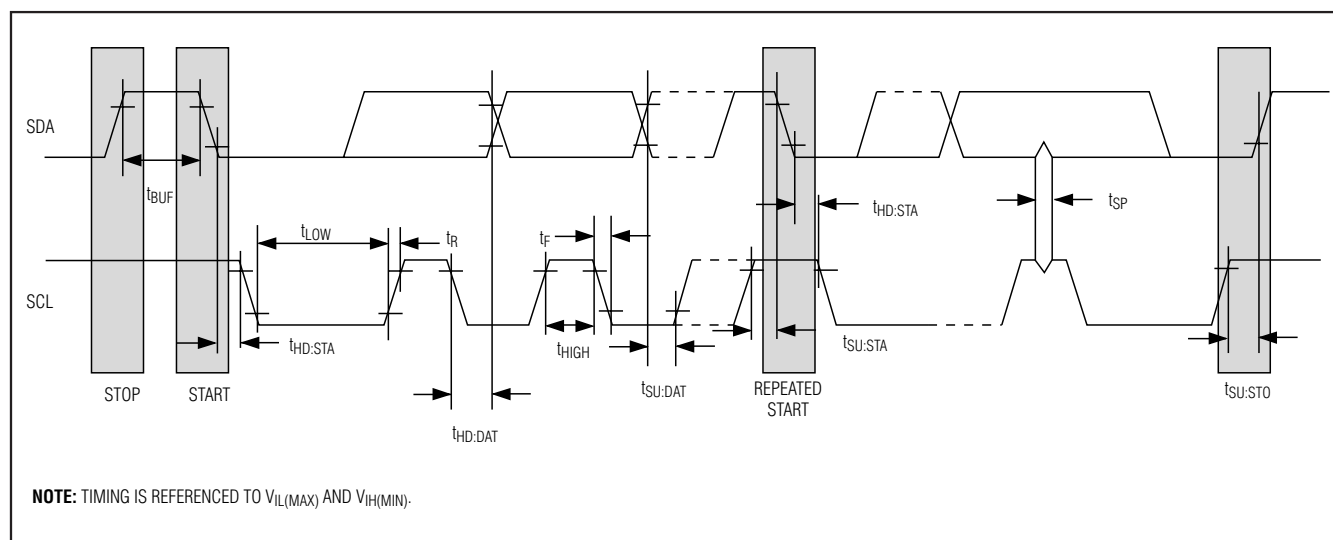

Figure 14. I2C Timing Diagram
**START condition:** A START condition is generated by the master to initiate a new data transfer with a slave. Transitioning SDA from high to low while SCL remains high generates a START condition. See Figure 14 for applicable timing.
**STOP condition:** A STOP condition is generated by the master to end a data transfer with a slave. Transitioning SDA from low to high while SCL remains high generates a STOP condition. See Figure 14 for applicable timing.
**REPEATED START condition:** The master can use a REPEATED START condition at the end of one data transfer to indicate that it will immediately initiate a new data transfer following the current one. REPEATED STARTs are commonly used during read operations to identify a specific memory address to begin a data transfer. A REPEATED START condition is issued identically to a normal START condition. See Figure 14 for applicable timing.
**Bit write:** Transitions of SDA must occur during the low state of SCL. The data on SDA must remain valid and unchanged during the entire high pulse of SCL plus the setup and hold time requirements (Figure 14). Data is shifted into the device during the rising edge of the SCL.
**Bit read:** At the end of a write operation, the master must release the SDA bus line for the proper amount of setup time (Figure 14) before the next rising edge of SCL during a bit read. The device shifts out each bit of data on SDA at the falling edge of the previous SCL pulse and the data bit is valid at the rising edge of the current SCL pulse. Remember that the master generates all SCL clock pulses including when it is reading bits from the slave.
**Acknowledgement (ACK and NACK):** An Acknowledgement (ACK) or Not Acknowledge (NACK) is always the 9th bit transmitted during a byte transfer. The device receiving data (the master during a read or the slave during a write operation) performs an ACK by transmitting a zero during the 9th bit. A device performs a NACK by transmitting a one during the 9th bit. Timing (Figure 14) for the ACK and NACK is identical to all other bit writes. An ACK is the acknowledgment that the device is properly receiving data. A NACK is used to terminate a read sequence or as an indication that the device is not receiving data.